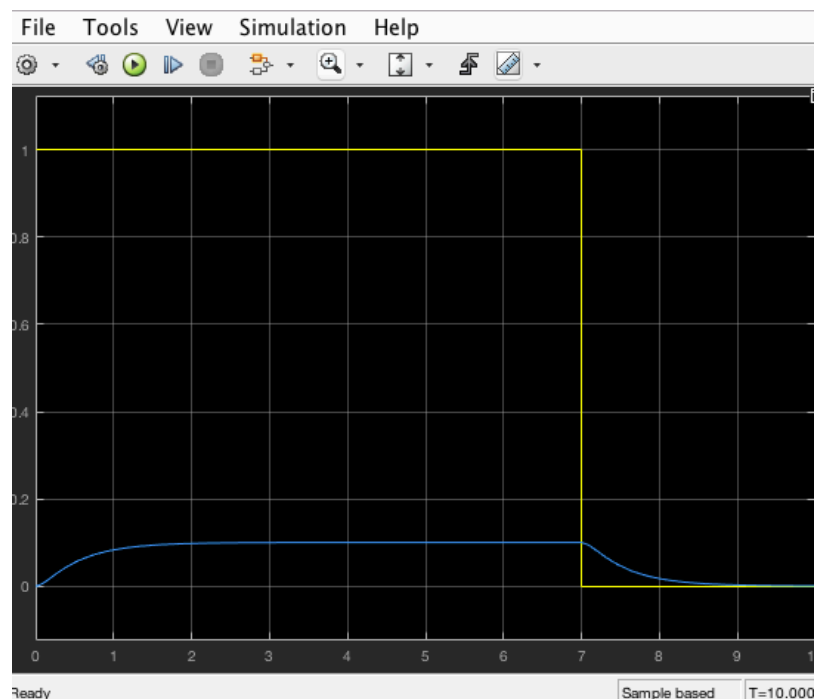

Figure 4. Simulink simulation of voltage step response of DC motor output velocity. Yellow shows input step and blue shows velocity response.
- You should get an output oscilloscope plot like that shown in Fig. 4 shown below: